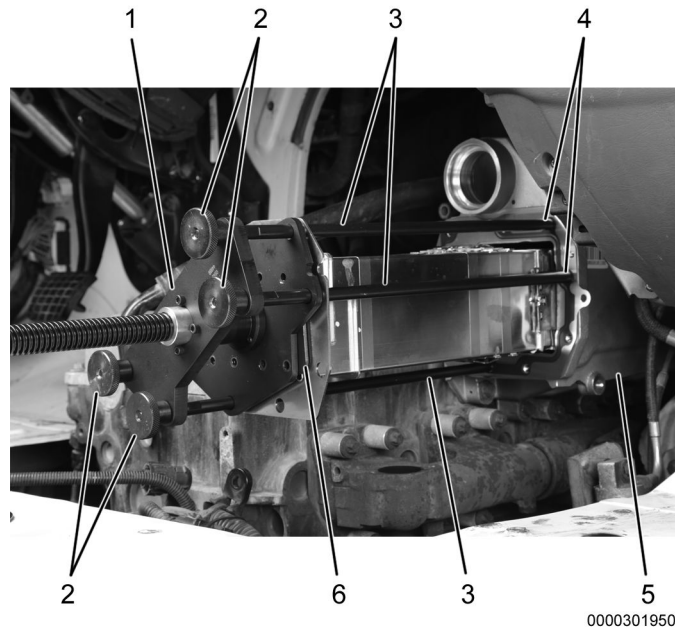

Figure 8. HT EGR Cooler Core Installation.
1. Lube all four threaded rods (Figure 8, Item 3) with anti-seize.
2. Install four threaded rods (Figure 8, Item 3) into upper right and lower left corner insertion locations (Figure 8, Item 4) of HT EGR cooler housing (Figure 8, Item 5).
3. Install installation plate (Figure 8, Item 6) onto puller assembly (Figure 8, Item 1).
4. Install puller assembly (Figure 8, Item 1), with installation plate (Figure 8, Item 6), onto four threaded rods (Figure 8, Item 3).
5. Install four thumb screws (Figure 8, Item 2) onto four threaded rods (Figure 8, Item 3).